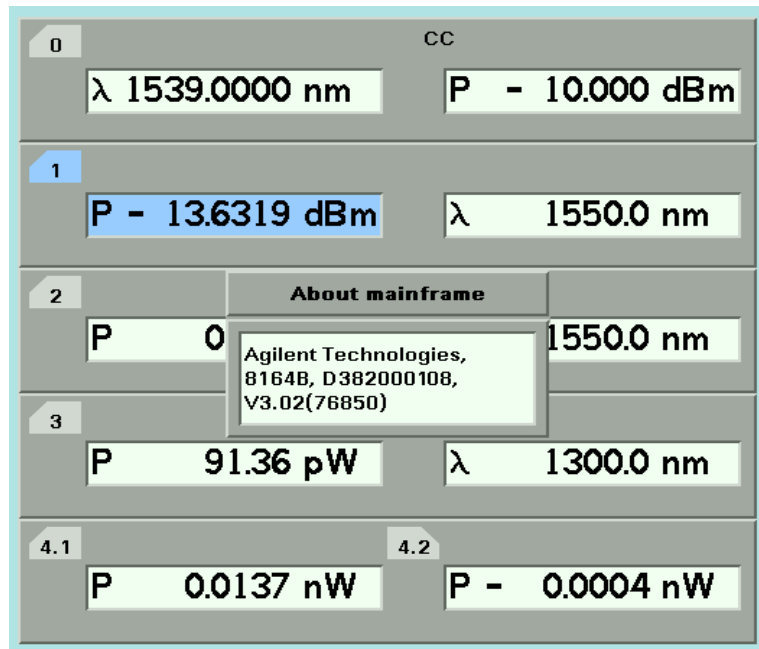

Figure 54 Viewing Information About the Mainframe
- 2 Move to the *<About Mainframe>* menu option and press *Enter*. You see a box displaying information about your mainframe, see Figure 54 on page 94. The manufacturer, part number, serial number, and firmware revision of the mainframe are listed.